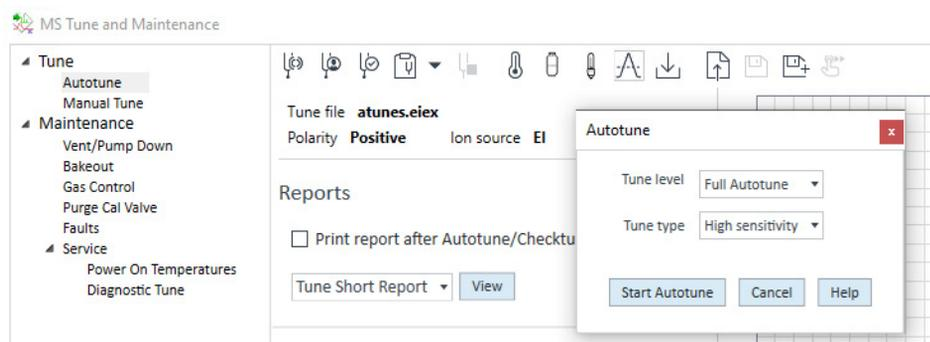

Figure 34. Setting up for autotune.
- 6 If using a new tune file click the **Full Autotune** icon. If a full autotune was already run on a tune file you can click the **Autotune Options** icon and select a **Tune level** to run **Detector Gain** only, **Mass Axis and Detector gain** only, or a **Full Autotune**. You can also select a **Tune type** of **Standard** or **High sensitivity**. (See Figure 34 on page 117.)